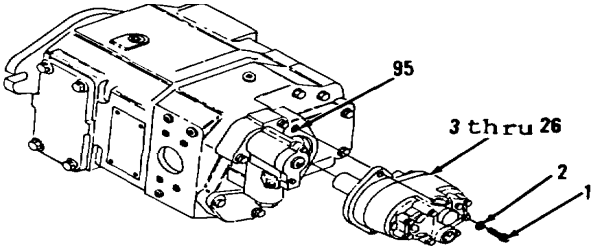

Figure 10-11.
- 1. Remove two bolts (1), lockwashers (2) and items 3 thru 26 as an assembly from head (95, Figure 10-11).